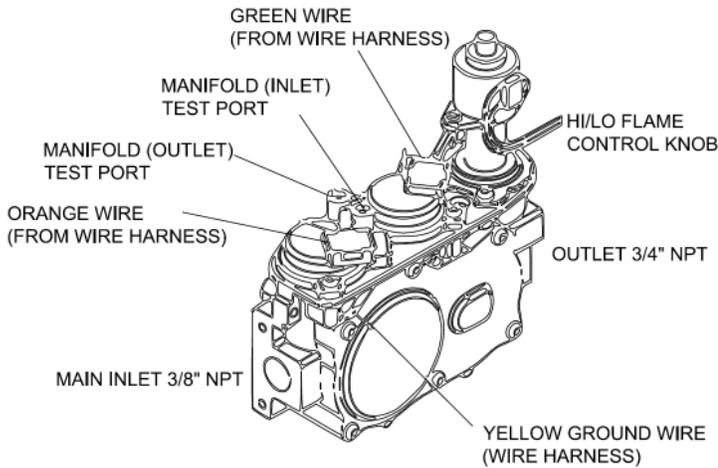

FIGURE 44
- 3) The burner cavity must have a height of 2-1/2", a depth of approximately 9-1/4", and the length shall extend the entire length of firebox. **(Table 5; Figure 44 & 45)**